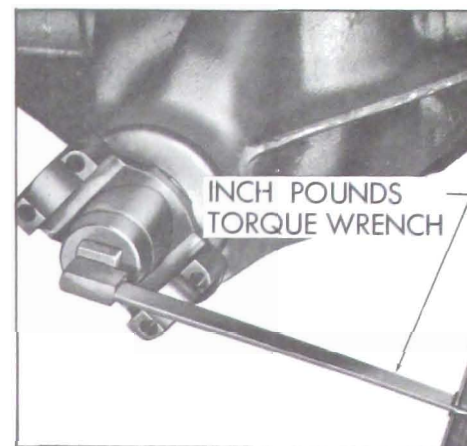

Fig. 6-28—Checking Pinion Bearing Preload
6. Check preload by using an inch pound torque wrench as shown in Figure 6-28.